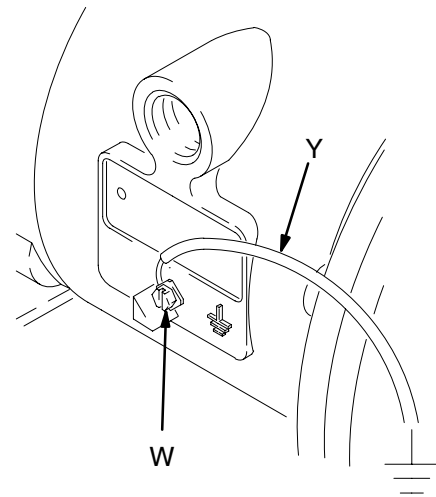

Fig. 1
*Polypropylene and Poly-vinylidene fluoride are **not** conductive. Attaching the ground wire to the grounding lug will ground only the air motor. When pumping conductive flammable fluids, **always** ground the entire fluid system by making sure the fluid has an electrical path to a true earth ground. See Fig. 1.*
- *Air Motor:* Connect a ground wire and clamp as shown in Fig. 1. Loosen the grounding screw (W). Insert one end of a 12 ga (1.5 mm²) minimum ground wire (Y) behind the grounding screw and tighten the screw securely. Connect the clamp end of the ground wire to a true earth ground. Order Part No. 237569 Ground Wire and Clamp.